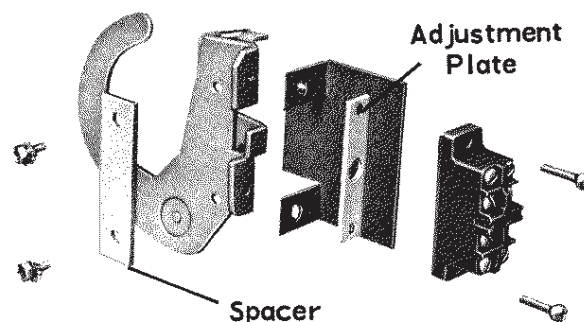

Fig. 2
NOTE: In some switches (depending on date of manufacture) there will be an indentation in the support bracket and it will be necessary to install the spacer shown in fig. 2. between the interlock and the support bracket.
4. If snap switch does not open before disconnect switch in Step 3, it may be necessary to install the adjustment plate shown in fig. 2 between the interlock operating mechanism and snap switch. Remove snap switch, install adjustment plate and re-mount snap switch.